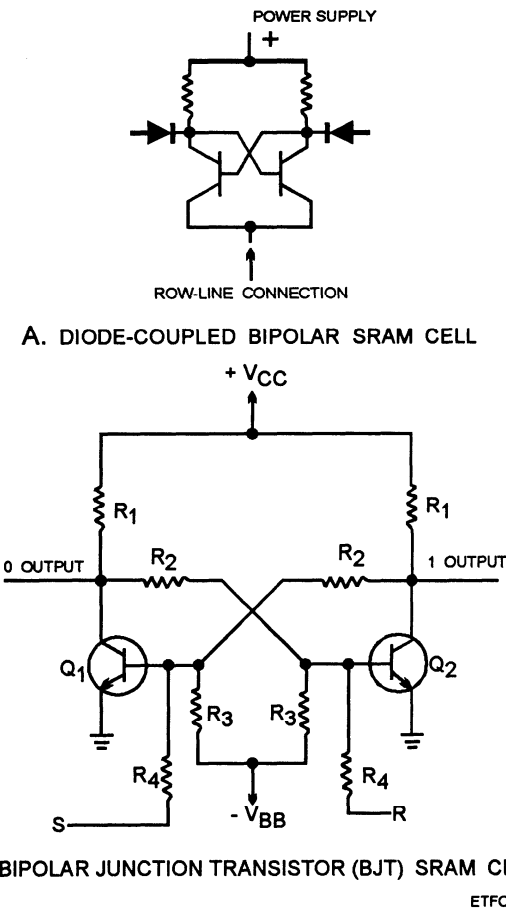

Figure 6-28.—Examples of SRAMs: A. Diode-coupled bipolar SRAM cell; B. Bipolar junction transistor (BJT.) SRAM cell.
**D-type** and **R-S type** flip-flops are commonly used for SRAMs. The flip-flops can be made of either bipolar or MOS transistors. MOS yields a higher density but lower access speed. Bipolar RAMs have a higher access speed but take up more space. Figure 6-28, frames A and B, and figure 6-29 illustrate schematic diagrams of individual bipolar and MOS RAM cells. Figure 6-28, frame A, is a diode-coupled
bipolar static RAM cell; figure 6-28, frame B, is bipolar junction transistor (BJT) static RAM cell; and figure 6-29 is a static RAM MOS cell. As stated, the RAM chip is mounted in a logic array on a pcb. Figure 6-30 is an illustration of an IC chip, with pin connections used in a static bipolar or MOS RAM.